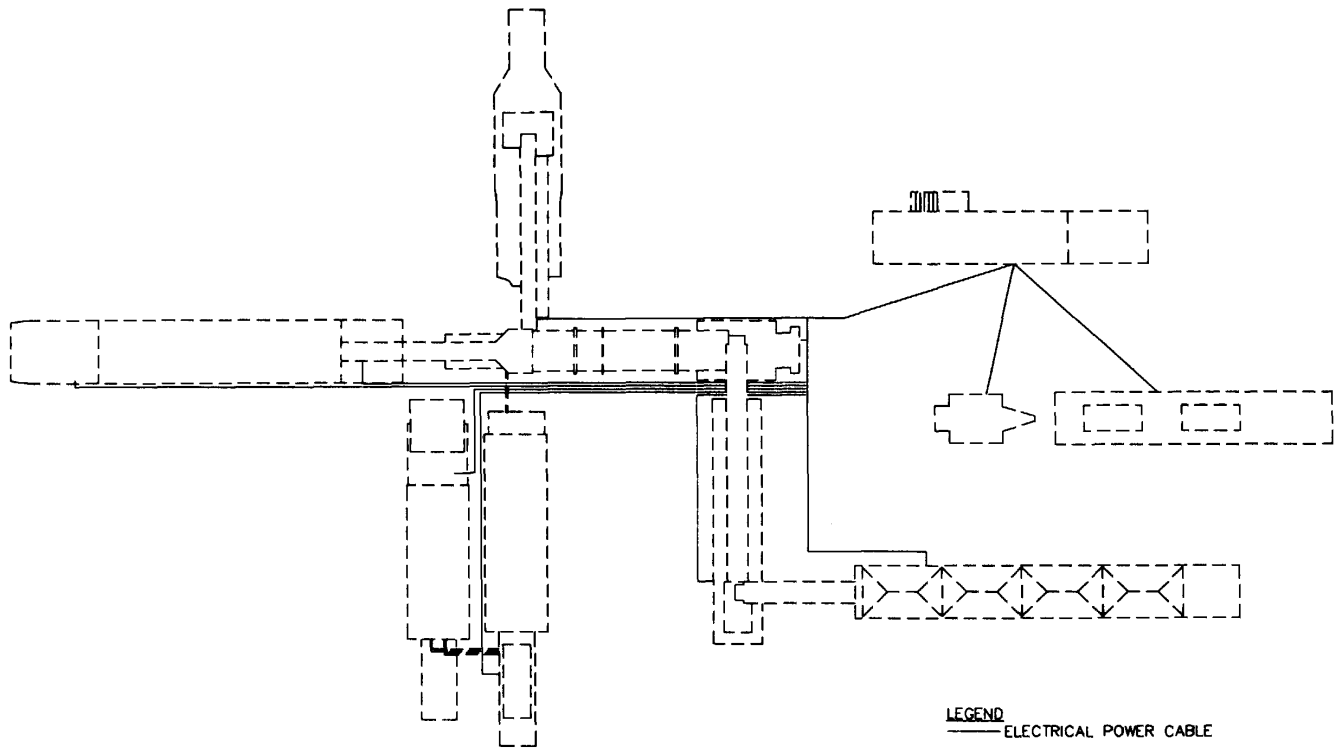

Figure 2-31 Electrical Power Cable Routing
5	The electrical power cables can be unwrapped from their transport storage positions and connected to the control van. The cables are to run parallel to each other in straight lines. See Figure 2-31. Lay out the power cables in the following order: Surge Bin (laid out and connected during surge bin set up) Baghouse Dedrummer/Melter Asphalt Tanker Drum Mixer Feed Conveyor Four Bin Feeder
**(See Figures 2-31 and 2-32)**